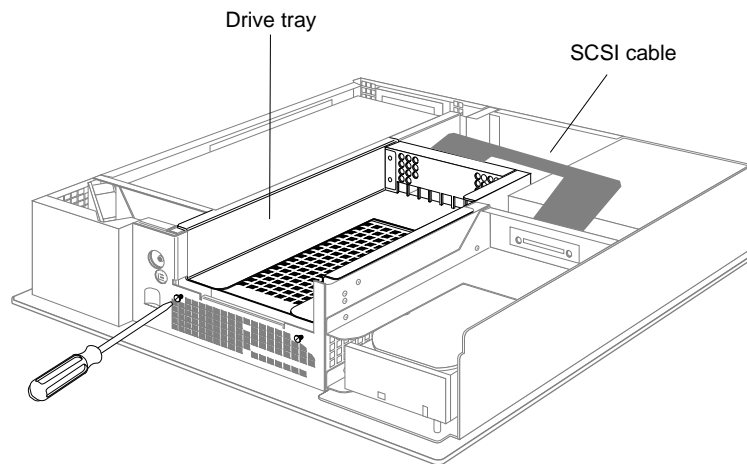

Figure 8-13 Loosening the Screws on the 5-1/4" Drive Tray
- Disconnect the SCSI cable from the connector on the back of the 5-1/4" drive tray. (See Figure 8-13.)